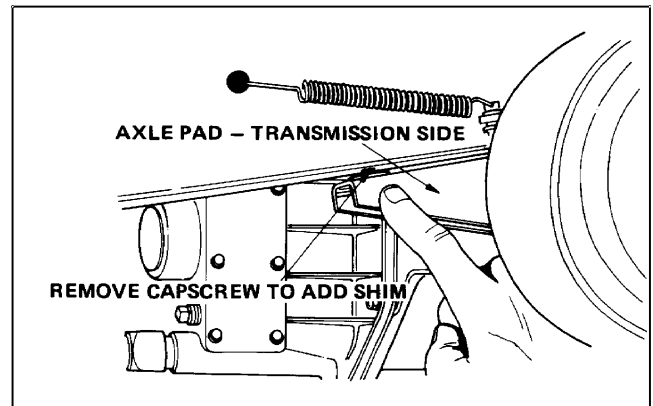

Figure 3B
8. Put a jack or blocking under differential to hold it in place. Remove capscrews and locknuts securing axle mounting pads to frame. Note number of shims between frame and axle mounting pad, which are used to get correct engine to transmission alignment (Fig. 3B). Carefully lower axle and pull it out from under traction unit.